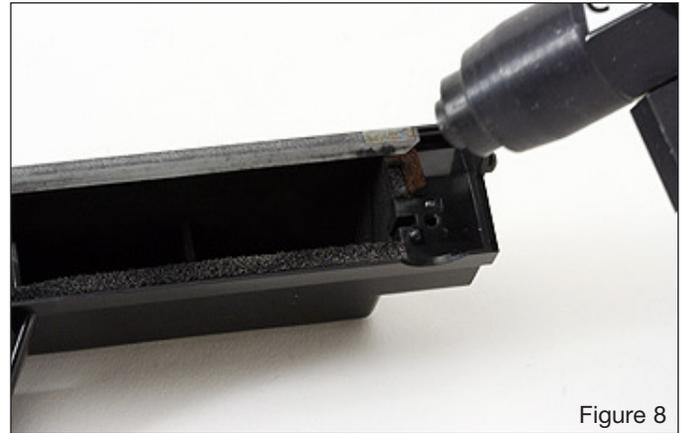

Figure 8
2. Clean out the waste section using dry, filtered, compressed air as shown in Figure 8. Inspect the wiper blade sealing foam, wiper blade end foams/felts and recovery blade for damage.